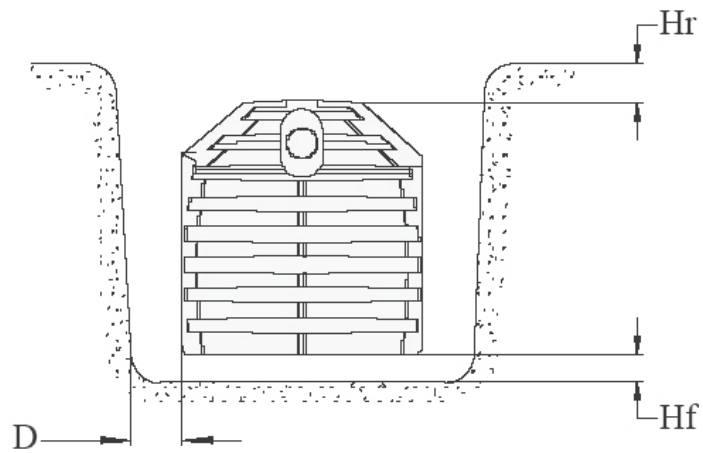

Figure 3
- Never install the holding tank(3) or filter housings(1,2) where subsurface water levels can reach their bases, otherwise, drainpipes could be required.
- Never enter the holding tank(3) after installation without prior authorization or safety precautions.
- Note: For bedding, use gravels 0-20 mm (0-3/4") or well-compacted and leveled sand. **Fig. 3**